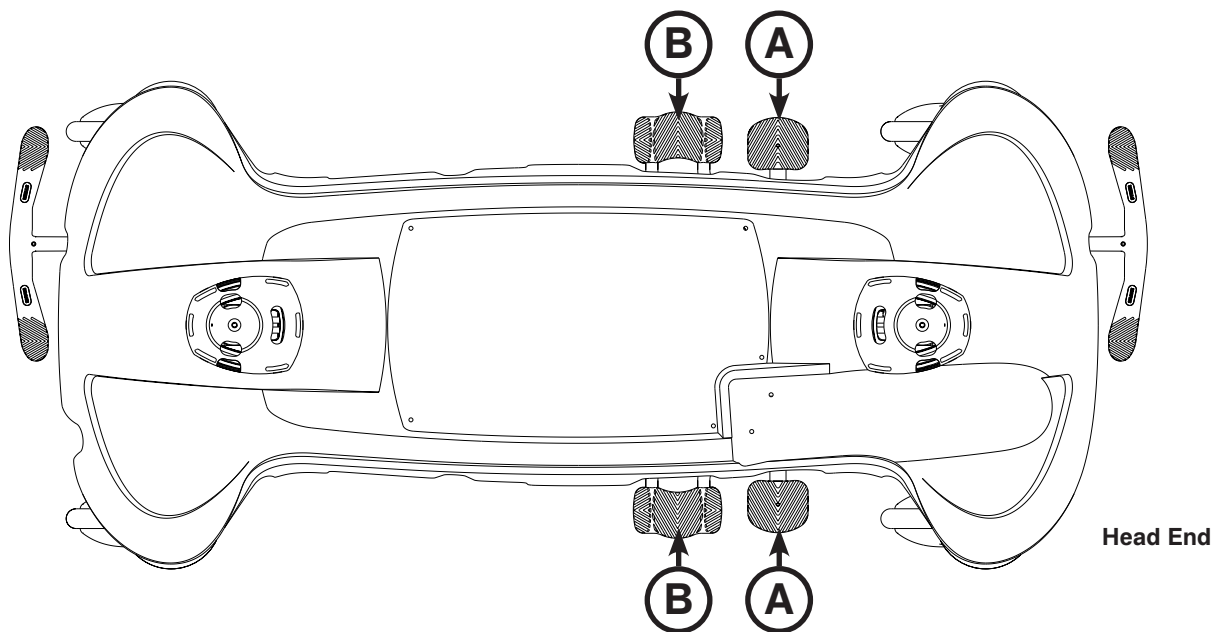
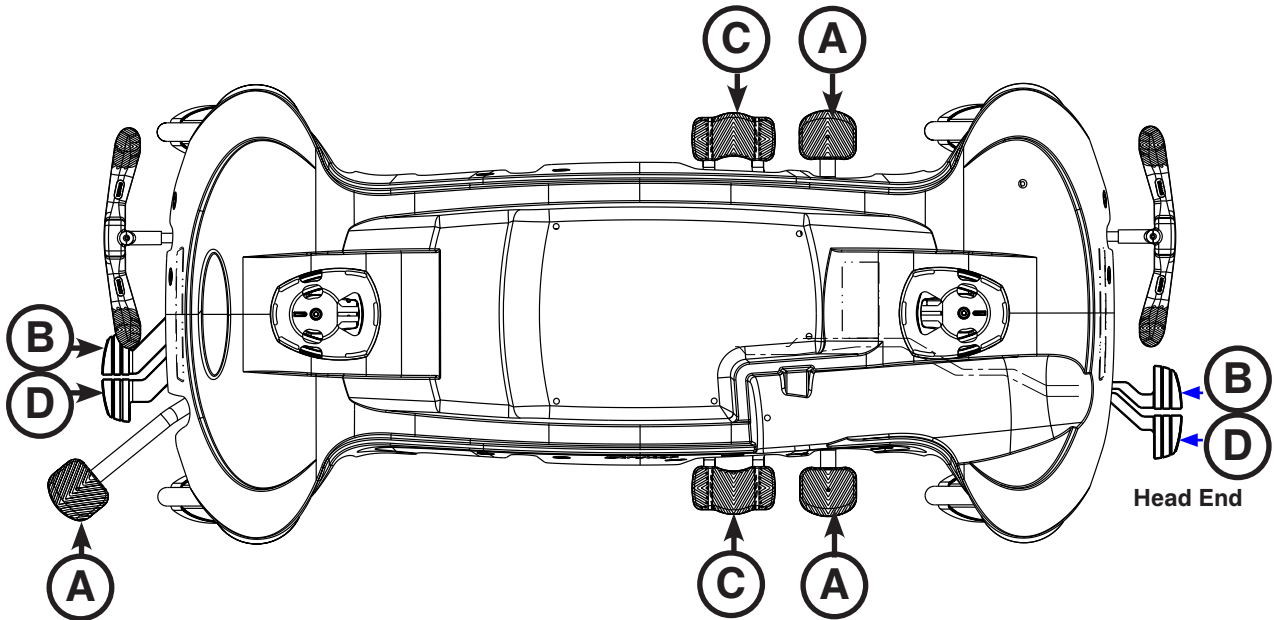

Figure 9: Stretcher Base Controls - Side Control
Figure 11: Stretcher Base Controls - Optional Three-Sided and Four-Sided Control
To operate the base controls, see Figure 9 to locate which pedals are used for what operation.
To operate the base controls, see Figure 11 to locate which pedals are used for what operation.
To raise the litter height electrically, depress pedal (A) (see Figure 9 on page 26 or Figure 11 on page 27). The litter will begin to raise. Hold the pedal down until the desired litter height is achieved. Release the pedal at any time to stop the litter motion.
For Trendelenburg positioning (head down), depress the side of pedal (B) closest to the head end (see Figure 9 on page 26).
For reverse Trendelenburg positioning (foot down), depress the side of pedal (B) closest to the foot end (see Figure 9 on page 26).
To lower the stretcher from reverse Trendelenburg position, depress pedal (A) once to raise the foot end of the stretcher, and then depress pedal (B) (see Figure 9 on page 26).